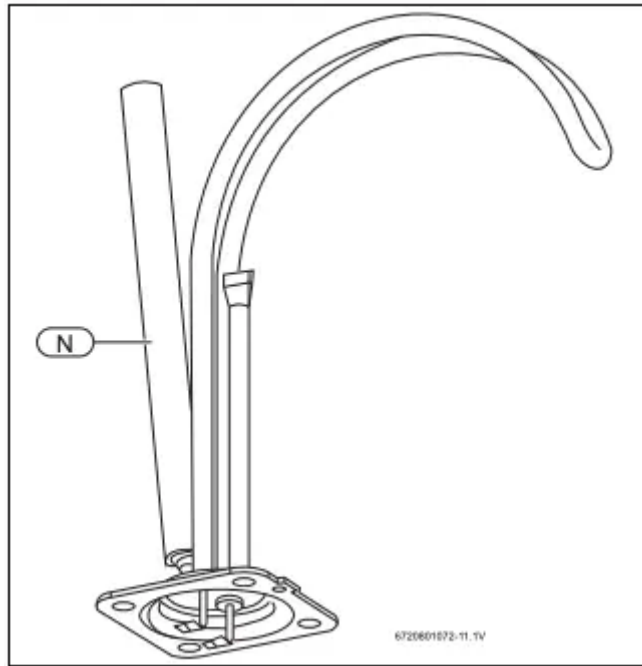

Fig 12
The purpose of the anode rod (Fig. 12, [N]) is to protect the tank against corrosion. It is critical that the anode rod be inspected once a year to determine whether it requires replacement. To access the anode rod, the heating element must be removed (see Section 5.4 Removing the heating element). Upon inspection, the anode rod surface should appear smooth. If the rod surface appears pitted, bumpy, rusty, or if the rod is missing completely, then it must be replaced.
- Remove and replace the anode rod (Fig. 12, [N]).